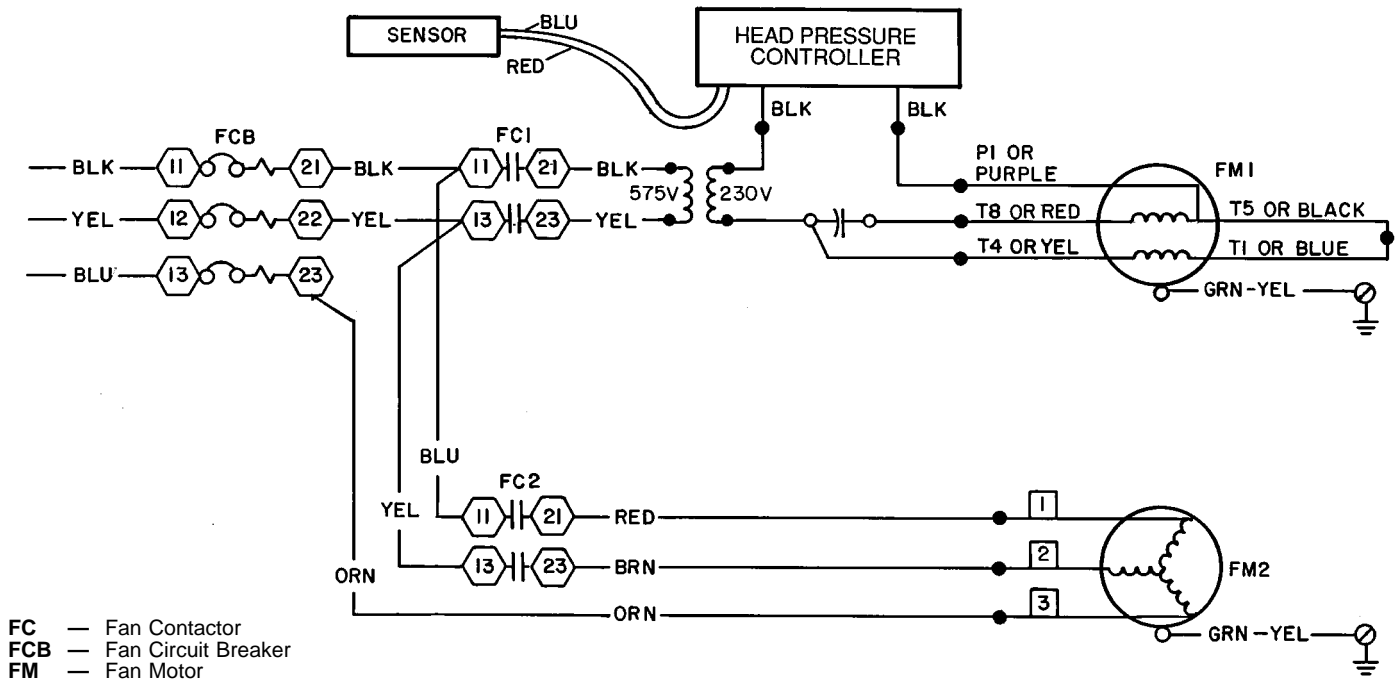

Fig. 15 — Head Pressure Controller Wiring, 575 V 576B Units
- b. Connect yellow wire from terminal 23 on FC1 to the primary side of the transformer. See Fig. 15. Connect the black wire from terminal 21 on FC1 to the other primary of the transformer. See Fig. 15.
- c. Run field-supplied wire from the secondary of the transformer to the capacitor. Run second field-supplied wire to one of the black wires on the controller. See Fig. 15.